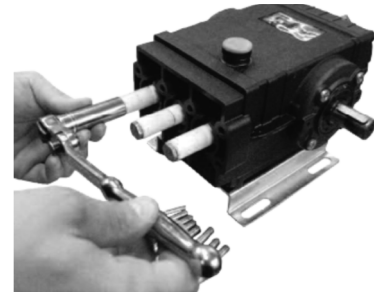

Fig. 7 — Removing the plunger bolt (item 10) with a socket wrench.
- 1 Remove the stainless-steel plunger bolt (item 10) and plunger from the piston rod (Fig. 7).